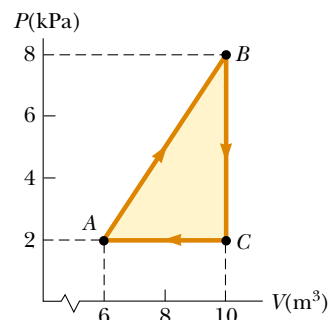

Figure P20.30 Problems 30 and 31.
30. A gas is taken through the cyclic process described in Figure P20.30. (a) Find the net energy transferred to the system by heat during one complete cycle. (b) If the
31. Consider the cyclic process depicted in Figure P20.30. If Q is negative for the process BC , and if ΔE_{int} is negative for the process CA , what are the signs of Q , W , and ΔE_{int} that are associated with each process?